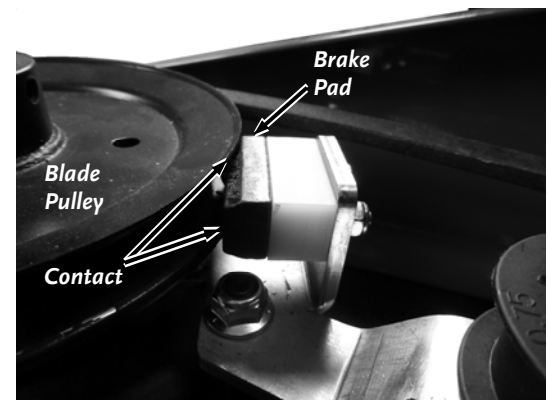

Figure 30
6. Rotate the Idler Arm so the Brake Pad contacts the Blade Pulley. Adjust the Pad up or down to fit into the groove of the Pulley so there is equal contact on top and bottom of the Pad (**Figure 30**).